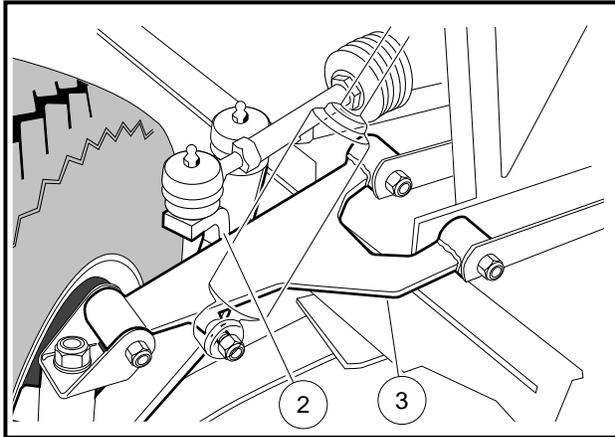

Figure 7-5 Adjust Steering Alignment
1. Turn steering wheel all the way to the right. Note the distance between the passenger side spindle stop (2) and the passenger side A-plate (3) (**Figure 7-5, Page 7-7**). The internal stop on the rack must reach its limit of travel against rack and pinion housing at exactly the same time the spindle stops against the passenger side A-plate (with vehicle wheels turned to the right). If simultaneous contact occurs, steering is in correct adjustment. If simultaneous contact does not occur, proceed to step 2.